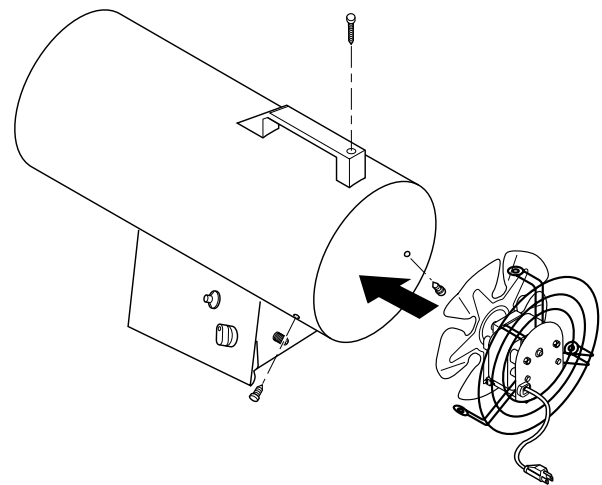

Figure 13 - Replacing Motor and Fan Guard into Heater
11. Place motor and fan guard into rear of heater shell. Make sure power cord is properly located (see Figure 13).
8. Place motor and fan guard into rear of heater shell. Make sure power cord is properly located (see Figure 13).